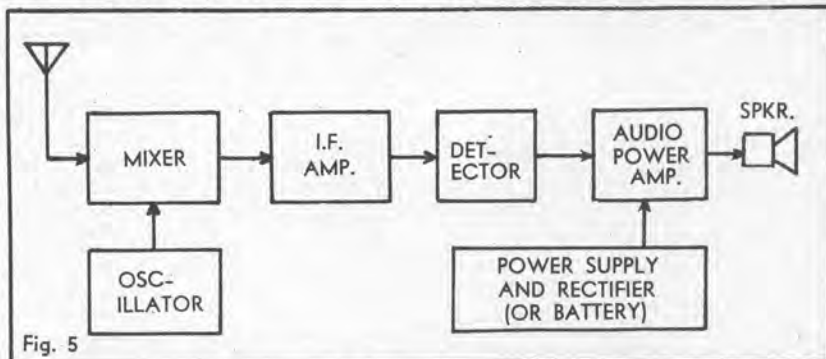

Fig. 5
**Figure 5: The block diagram of a superheterodyne receiver. Most modern receivers, both valve and transistorised, are of this type. The more sensitive designs have an RF stage between the aerial and the mixer to improve the sensitivity, selectivity and noise performance.**
Figure 5 shows the sequence of stages in a typical superhet in block schematic form. The aerial input signal is fed to the mixer or frequency changing stage, where it is mixed with a signal generated by the in-built oscillator.